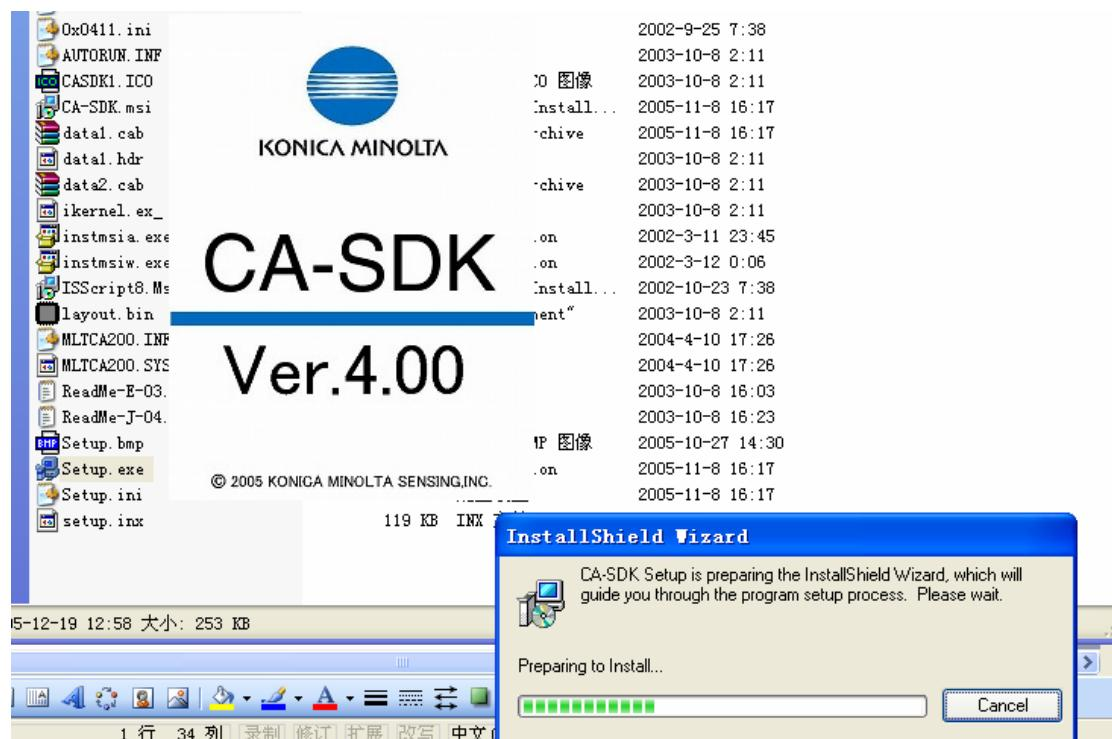

Fig. 8
- f) CA210 SDK driver must be installed besides above setup, please refer to Fig. 8;